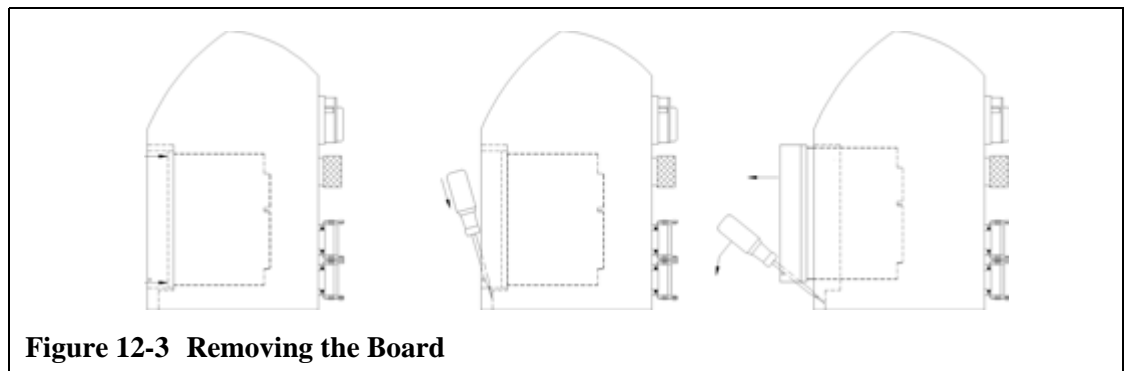

Figure 12-3 Removing the Board
3. Slide a screwdriver between the silver post and the ledge on the cabinet and gently pry the board out. (Figure 12-3)
7. Slide your screwdriver between the silver post and the ledge on the cabinet and gently pry the board out. (refer to Figure 12-3)